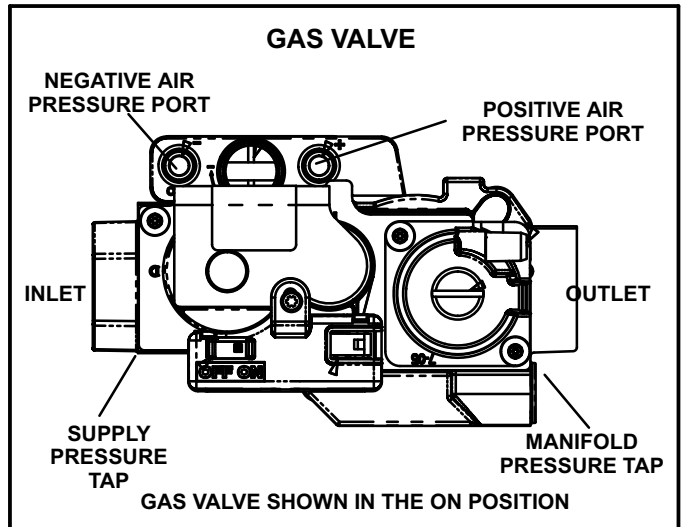

FIGURE 44
Gas Valve Operation (Figure 44)
- 6 - Move gas valve switch to **OFF**. See figure 44.
- 8 - Move gas valve switch to **ON**. See figure 44.
- 2 - Remove the threaded plug from the outlet side of the gas valve and install a field-provided barbed fitting. Connect measuring device positive "+" to barbed fitting to measure manifold pressure. See figure 44 for manifold location.